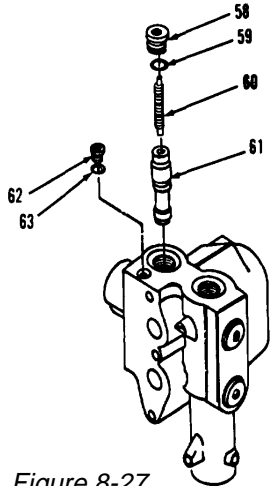
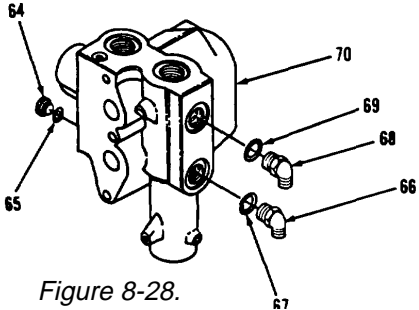

Figure 8-27.
Figure 8-28.
- 19. Remove plug (58), preformed packing (59), piston (60), stem assembly (61, Figure 8-27). Discard preformed packing (59).
- 20. Remove plug (62) and preformed packing (63). Discard preformed packing (63).
- 21. Remove plug (64) and preformed packing (65, Figure 8-28). Discard preformed packing (65).
- 22. Remove elbow (66) and preformed packing (67). Discard preformed packing (67).
- 23. Remove elbow (68) and preformed packing (69) from body (70). Discard preformed packing (69).